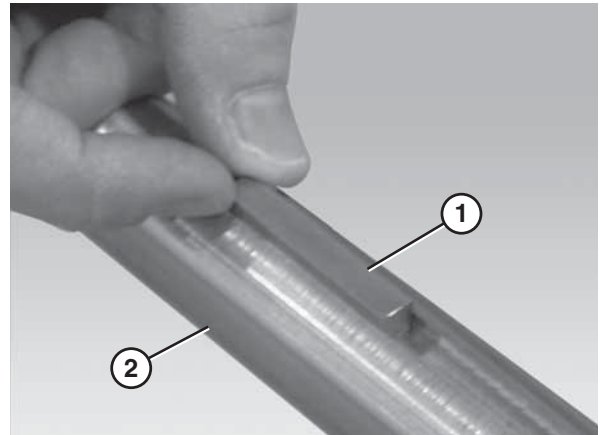

Figure 39
7. Insert the motor output shaft key (Figure 39, item 1) into the motor output shaft keyway (Figure 39, item 2).